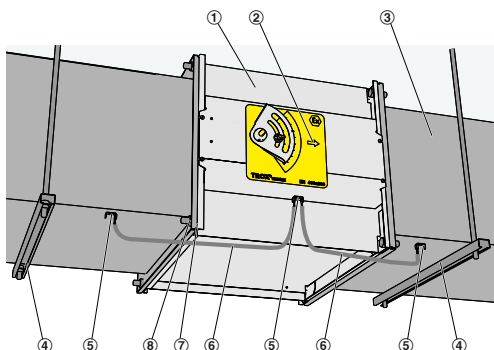

Fig. 4: Installation example
1. ▶ Pre-assemble suspensions (Fig. 4/4) at the installation location, at a distance of approx. L+100 mm.
2. ▶ Assemble the ducts (Fig. 4/3) and lead them up to the installation location of the controller.
3. ▶ Fix the controller (Fig. 4/1) including seals (Fig. 4/7) to the duct (note the airflow direction marked by the arrow (Fig. 4/2).
5. ▶ Make the equipotential bonding (Fig. 4/6) using ground strap and blade connector (Fig. 4/5).